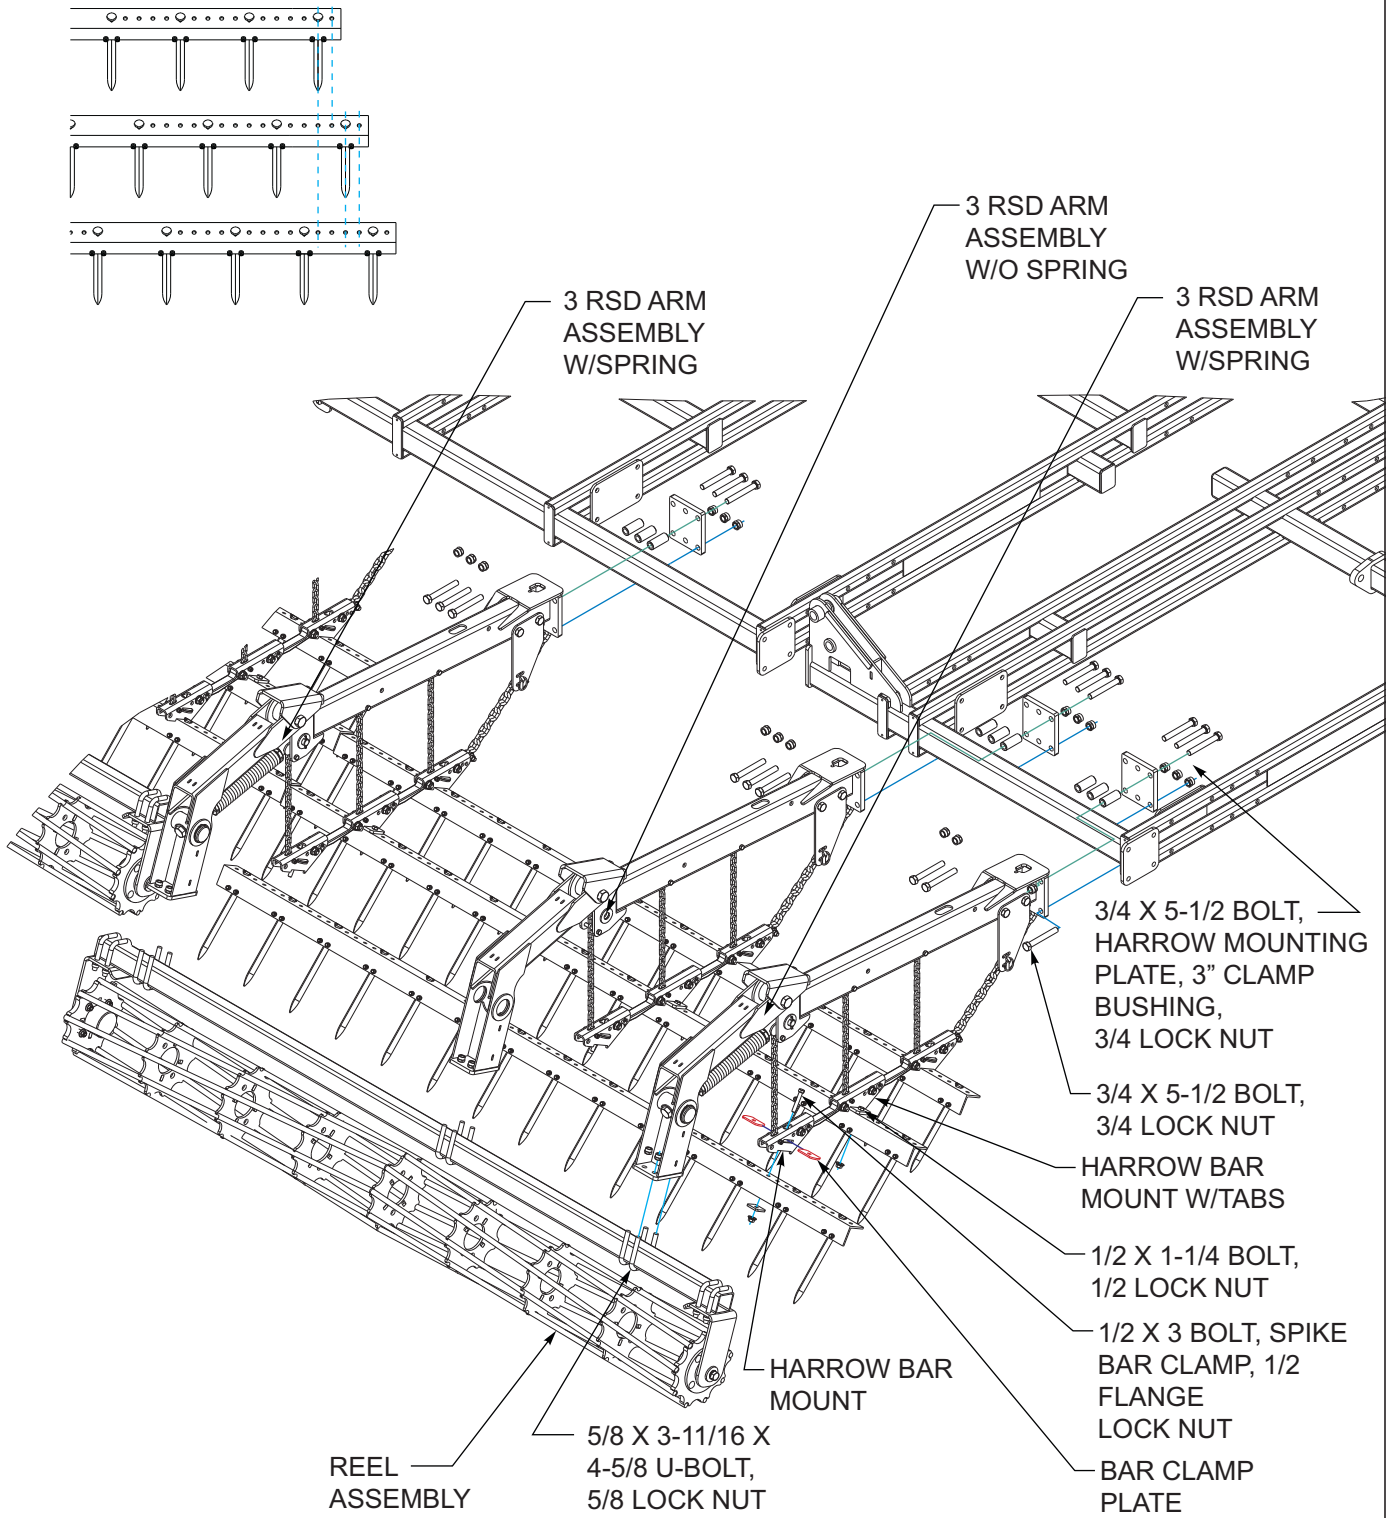

Figure 3-22: 3 Row Spike Harrow and Reel Installation
1. Attach the 3 RSD w/spring and 3 RSD w/o spring (**Models 9430FH -32’-34’ only**) arm assemblies to the rear tube of the center and wing frames using harrow mounting plates, 3/4-10x5-1/2 hex screws, clamp bushings and 3/4-10 lock hex nut *See Figure 3-22*.
See Figures 3-22 for proper placement.
3. Refer to Note: spike bar alignment *See Figures 3-22* for proper alignment of spike bar assemblies. Be sure they are aligned properly on both right and left side of each section.